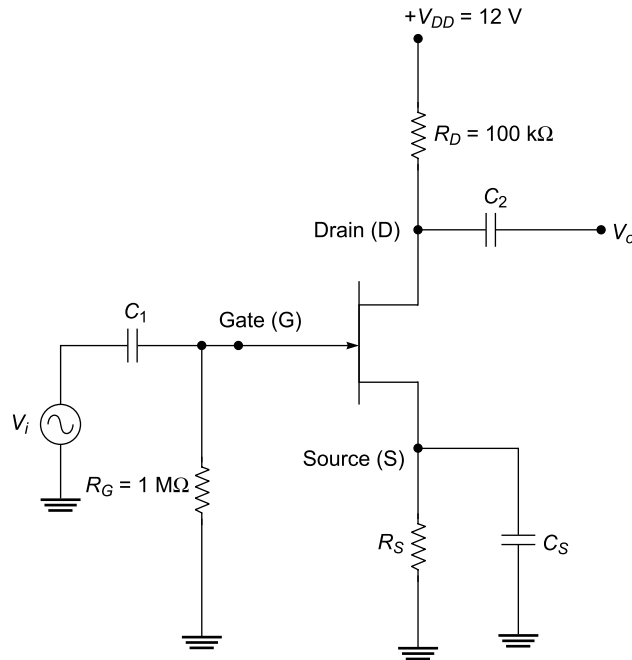

Fig. 1.81
1.14 Figure 1.81 shows a common source JFET amplifier circuit. Determine the value of voltage gain of the amplifier, input resistance and output resistance. Assume r_d is 100 k Ω and $g_m = 2$ mA/V.